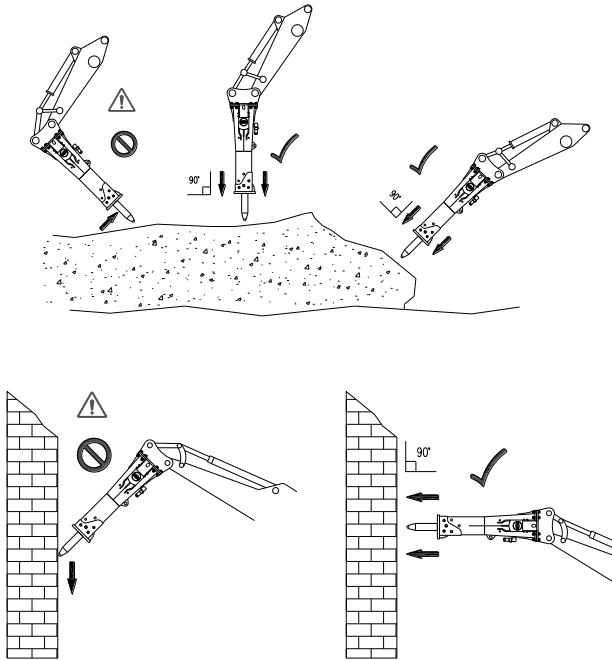

Fig. 6-2 Always Work 90° to Work Surface
NOTE: Always place the breaker tool at right angles to the work surface. See Fig. 6-2. This will prevent the tool from binding against the bushings.
- The breaker will emit a hollow (thin) sound when the tool is binding in the bushing. This is usually accompanied by a drop in blow frequency and reduced impact energy. Binding can be the result of misalignment or insufficient lubrication. Review operator technique. Always work at a 90° angle to the material. See Fig. 6-2. This will prevent the tool from binding against the bushings. Keep the tool and bushings well lubricated. Re-lubricate the tool every two hours or if it appears dry.